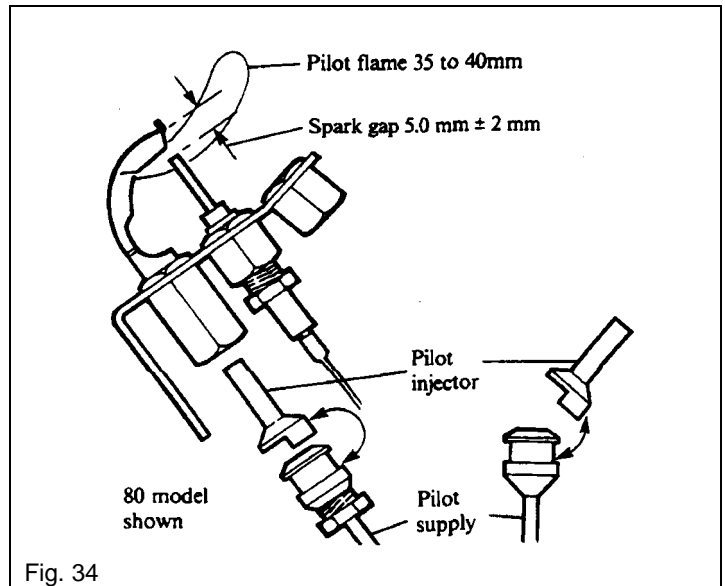

Fig. 34
11. Undo the securing nut and remove the spark electrode, see Fig. 34, from the pilot assembly.
Carefully remove and retain the pilot injector, see Fig. 34.
2. Locate the pilot injector over the end of the pilot supply, as shown in Fig. 34 and carefully position it in the pilot burner. Secure the pilot supply to the pilot assembly and gas valve.
3. Replace the spark electrode and check that the spark gap is  $5.0 \text{ mm} \pm 2 \text{ mm}$ , see Fig. 34.
Refer to Fig. 34.